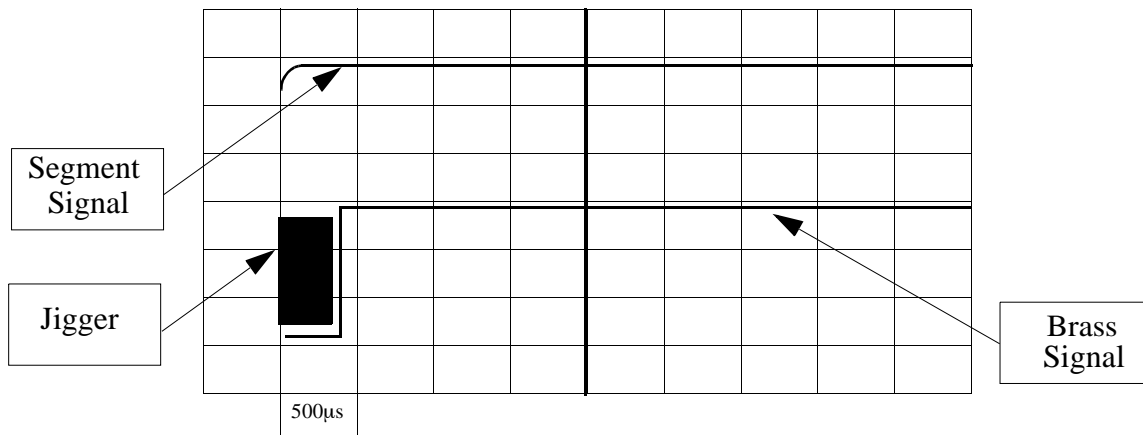
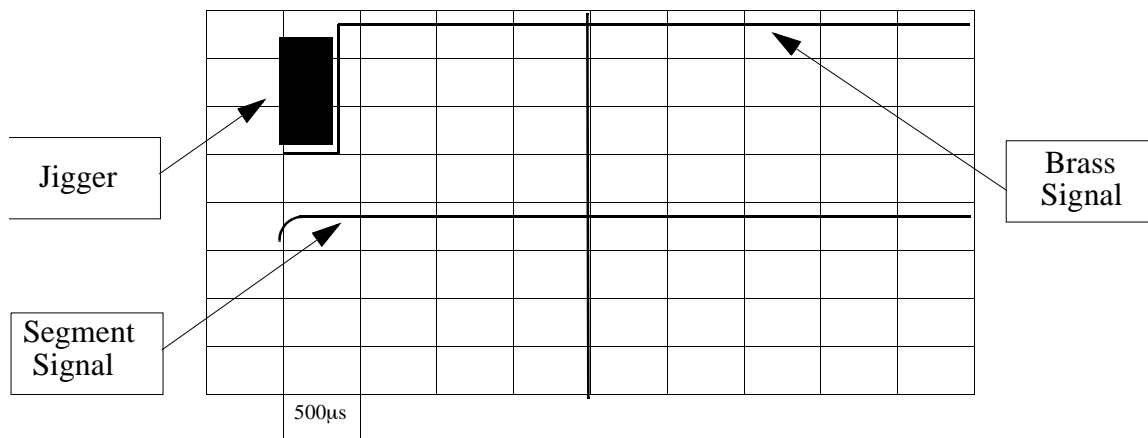

Figure 4-8 Trigger on CH1
Figure 4-9 Trigger on CH2
6. Measure from the rising edge of the BRASS to the rising edge of the SEGMENT (it does not matter which edge leads). The time measured must be less than 500 μ s (500 μ s = 0.5 ms). See Figure 4-8 and Figure 4-9.